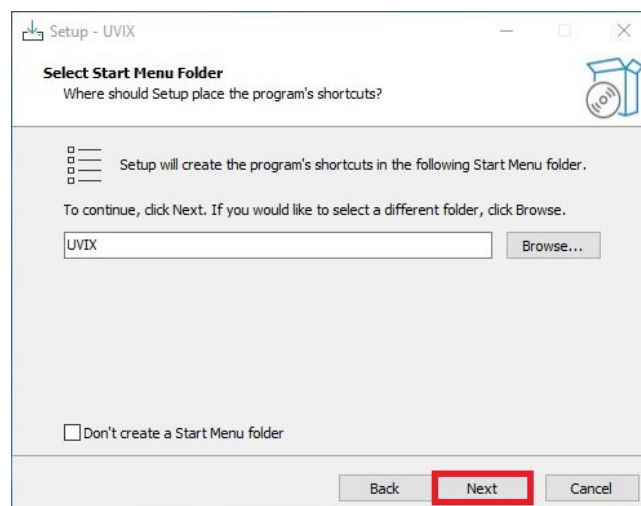

Figure 4.15: Create Shortcut
5. Specify whether you want to create a shortcut and click "Next," as shown in figure 4.15.